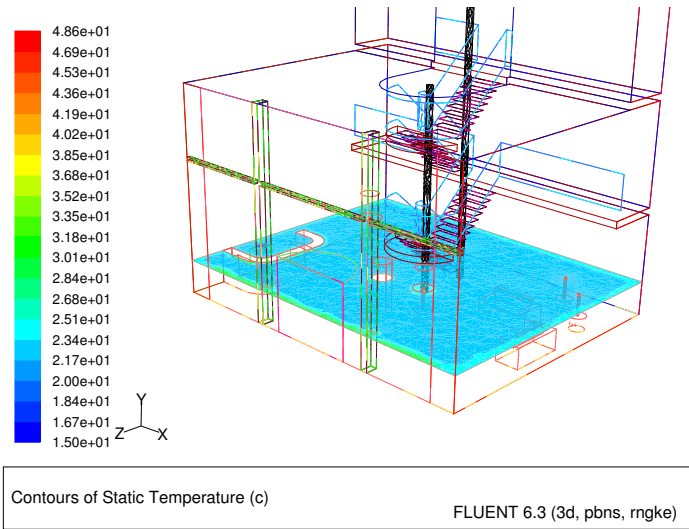

Figure 3: Contours of Static Temperature at  $y=1$
2. Display contours of Static Temperature on the ground floor at  $y=1$  (Figure 3).